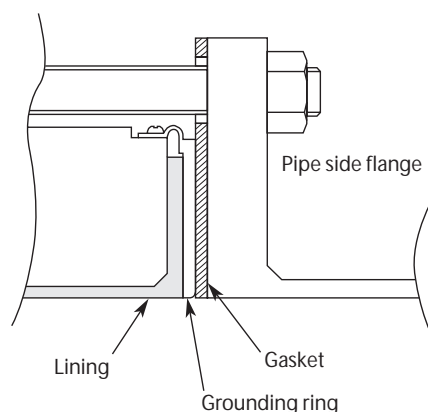

Figure 2-15 Installation using SUS material grounding ring and metal pipe
- Install the detector as shown in Figure 2-15. The torque level for tightening the bolts is not related to the gasket material. See Table 2-1 on page 2-12 for the appropriate torque. For the internal diameter of the gaskets, see Table 2-2 on page 2-15.